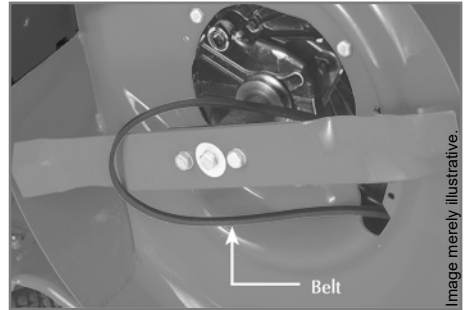

Figure 8
- ✓ In order to remove the rear belt pulley in the engine shaft, remove the lower cover of the belt fixed over the cutting blade and then remove the belt (Fig. 8).